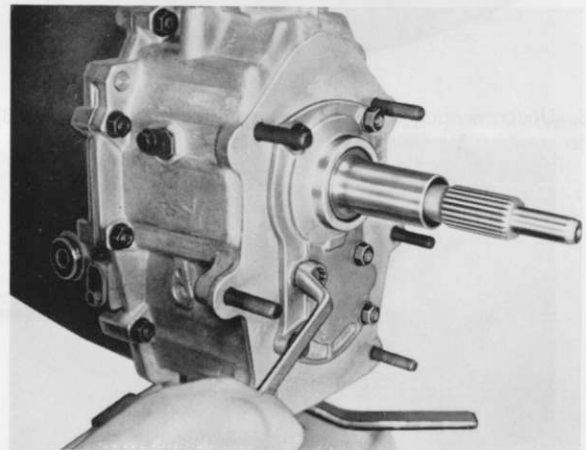

Fig. 9
1. Loosen nuts (201) (Fig. 9) and front cover (203).